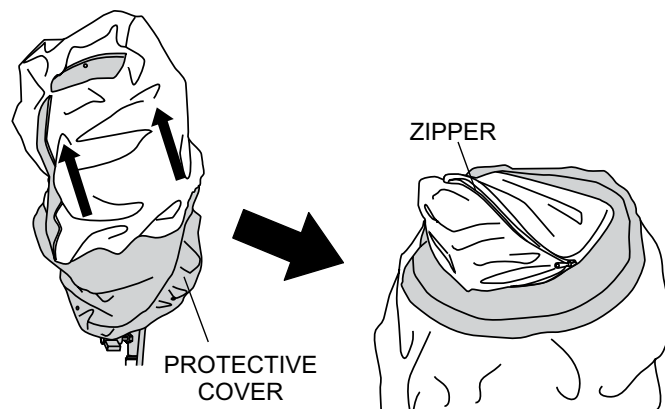

Figure 10. Folding Protective Cover
3. Next, fold the protective cover (Figure 10) into itself and zip.